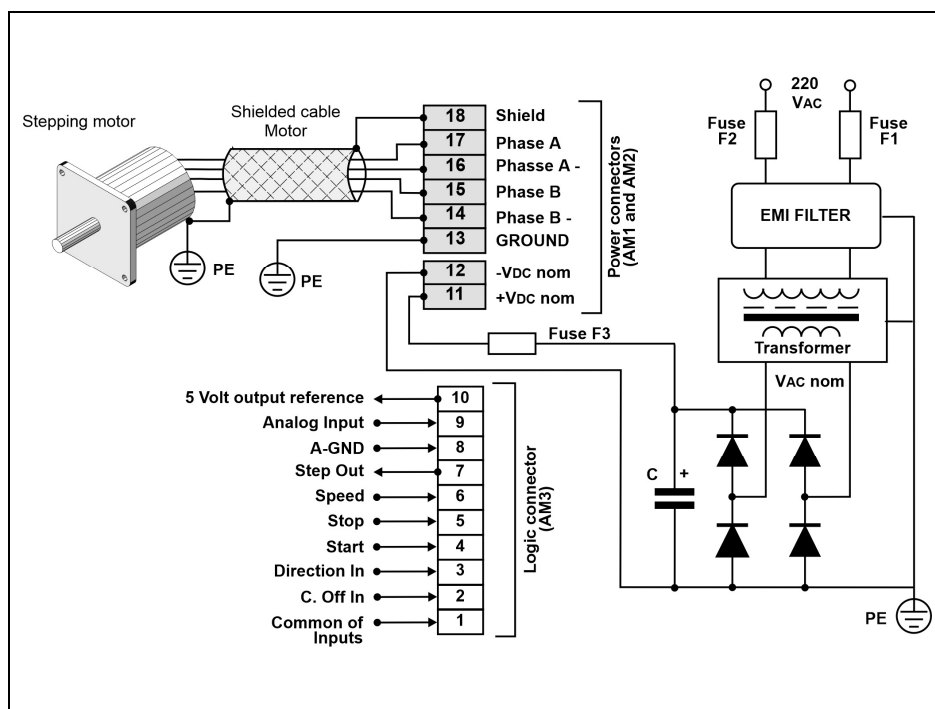
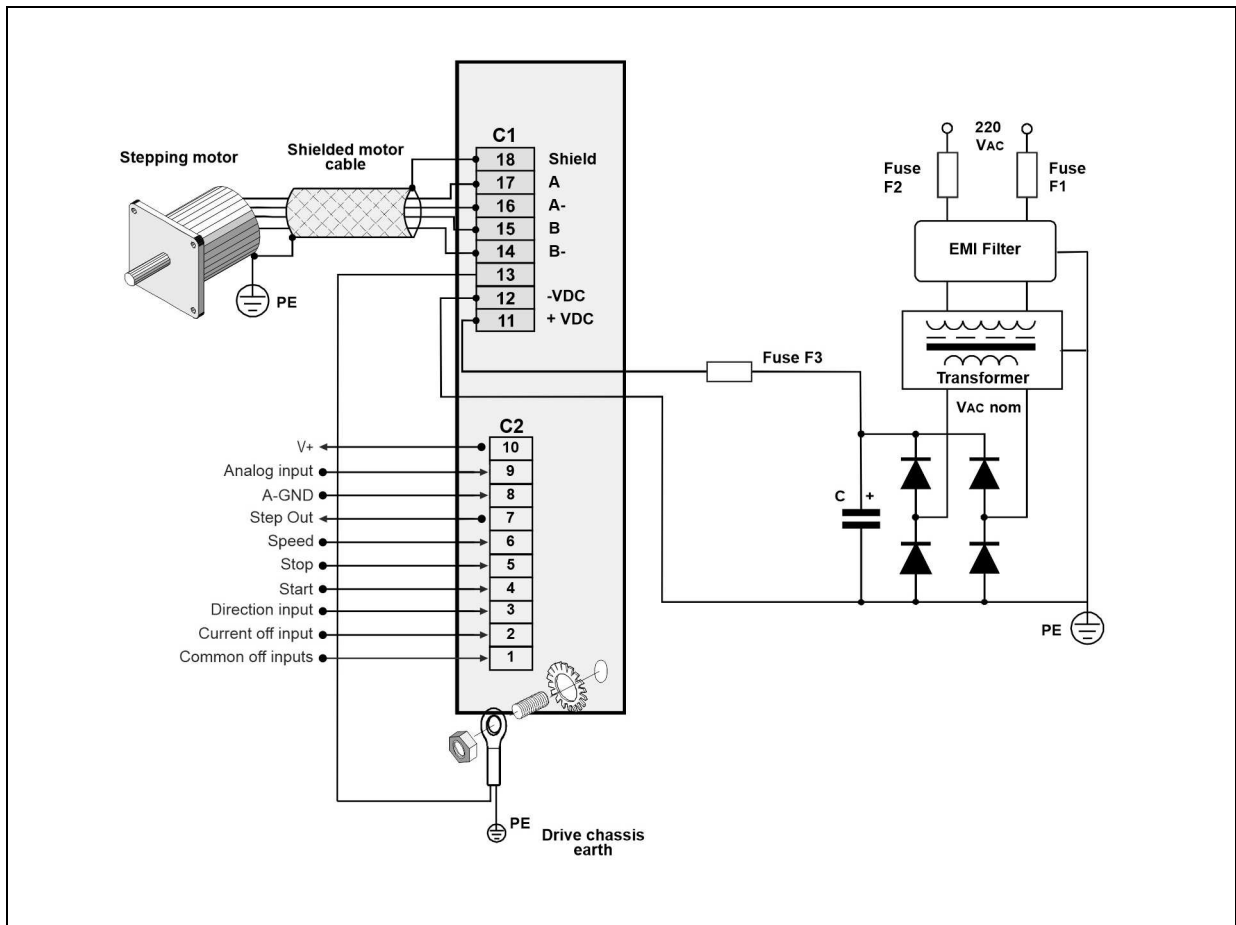

Fig. 7a - Drive external connection scheme for ADW 04, ADW 04.V, ADW 06 and ADW 06.V drives.
Fig. 7b - Drive external connection scheme for ADW 94 and ADW 96 drives.
7.4- Branch circuit protection fuses F1 and F2 (see Fig. 7a and Fig. 7b) must be time delay of 10 Amp, at least 250 Volt with I^2t between 150 A²s and 400 A²s (for example Littelfuse 215010.P).
7.5- Fuse F3 (see Fig.7a and Fig. 7b) must be of type KTK-R-8 by COOPER BUSSMAN LCC or equivalent [Branch circuit protection fuses]. Fuse F3 is mandatory for UL compliance.